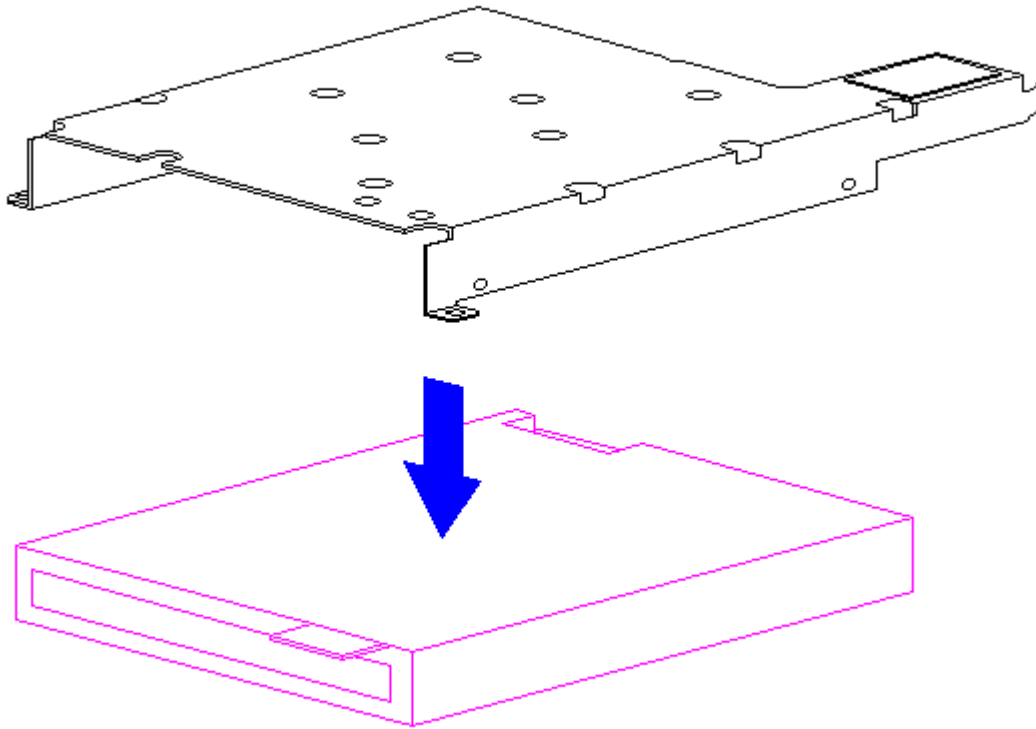

Figure 3-45. Removing the Diskette Drive (All Models)
3. Separate the diskette drive from the bracket (Figure 3-45).